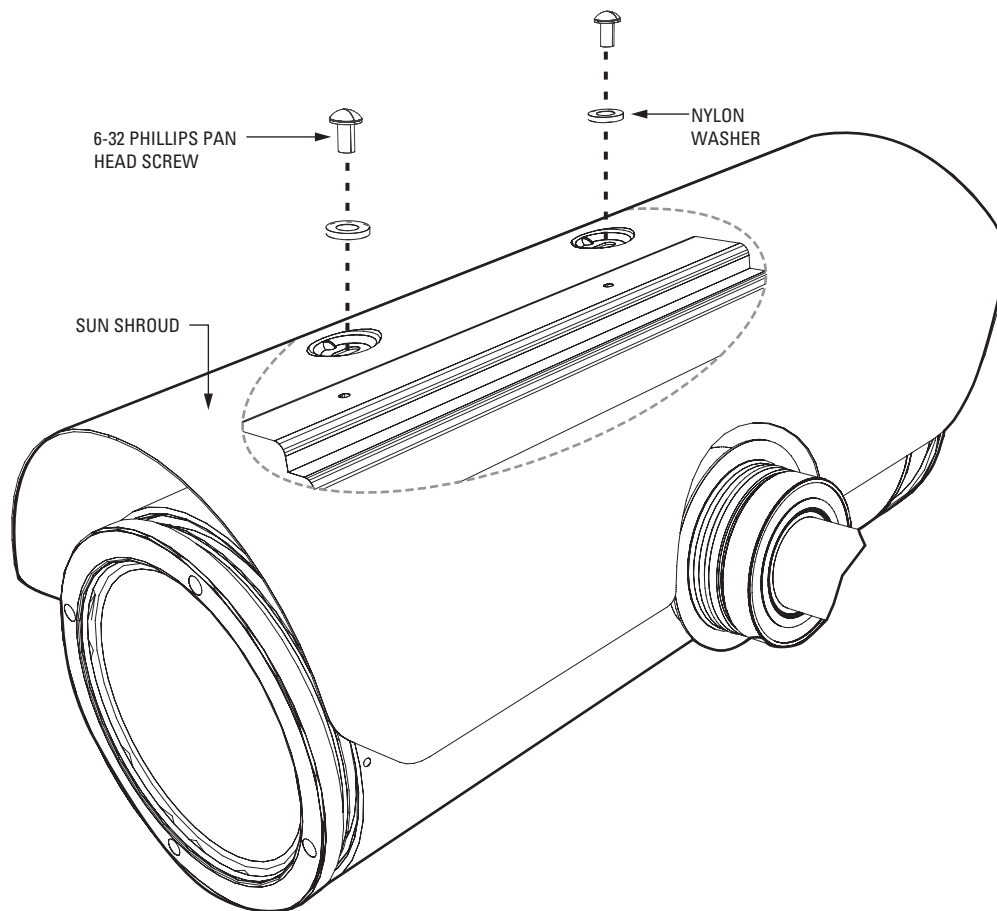

Figure 11. Install the Sun Shroud
1. Place the supplied nylon washers on the 6-32 Phillips pan head screws. Refer to Figure 11.